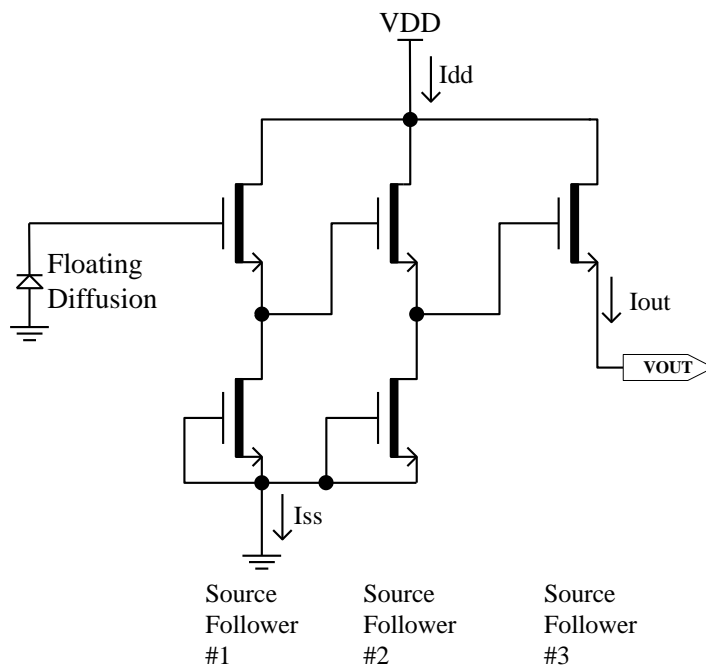

Figure 17: Output Amplifier
- Each output. See Figure 17: Output Amplifier. Note that the current bias affects the amplifier bandwidth.
3. One output, unloaded. The maximum DC current is for one output unloaded and is shown as I_{ss} in Figure 17. This is the maximum current that the first two stages of one output amplifier will draw. This value is with V_{out} disconnected.